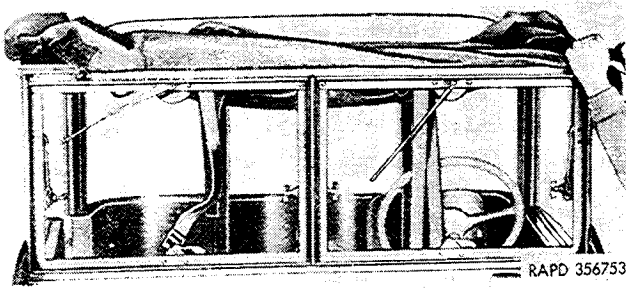

Figure 2-194. Removing top cover.
(5) Fold the cover toward the windshield and pull the cover from the left side of the windshield support frame retainer (fig. 2-194).
end of the retainer on the windshield frame (fig. 2-194), and pull the cover into the retainer from left to right.